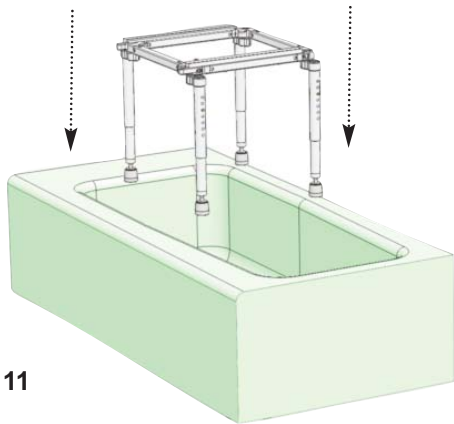

Figure 11
**B** Place the assembled tub section of the slider into the desired position of the bath tub (Refer to Figure 11).